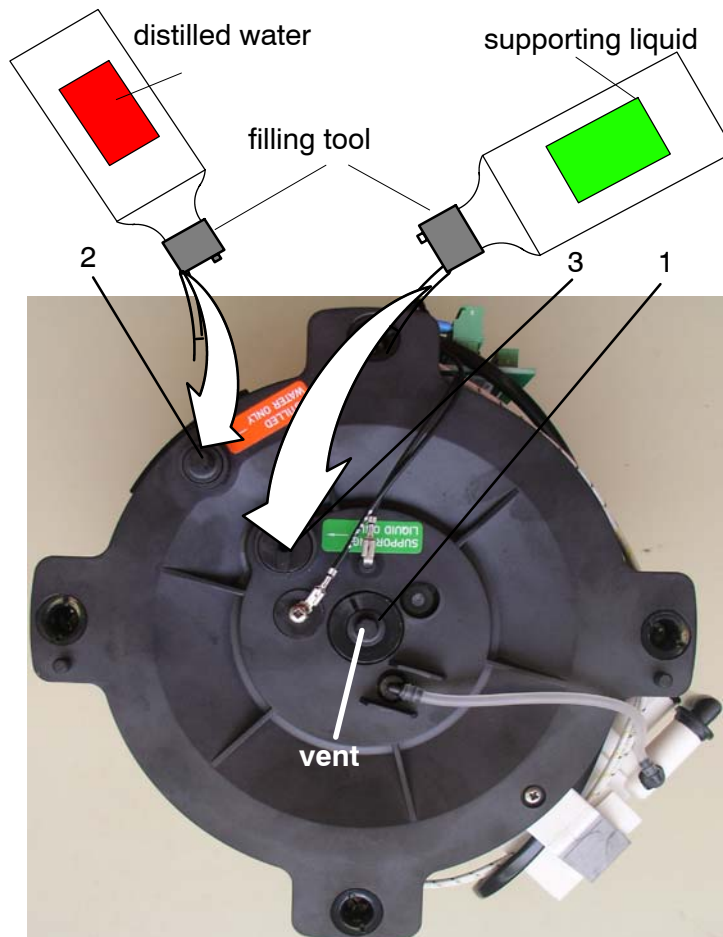

Figure 11: Filling with liquids
(see Figure 11)
- Undo the three plastic screws (Figure 11/1-3) on the upper outer sphere